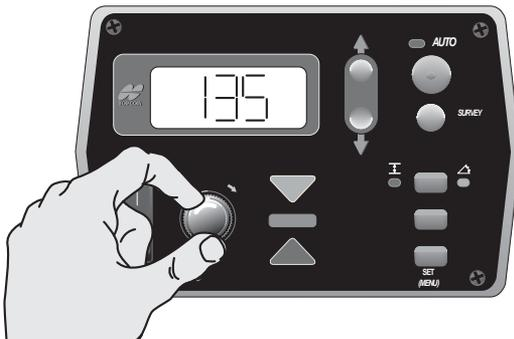

Figure 4-30. Setting the Raise Valve Offset Value
2. Turn the Grade Adjustment Knob counter clockwise, decreasing the valve offset value until the hydraulic cylinder no longer moves. Then slowly rotate the Grade Adjustment Knob clockwise until the hydraulic cylinder just begins to move up (Figure 4-30).